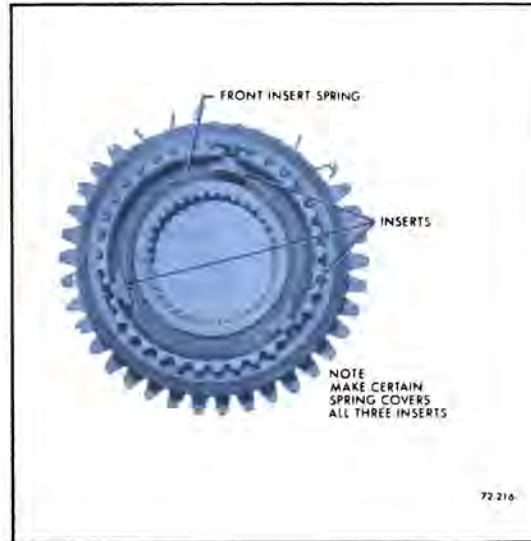

Figure 72-216—Installing Front Insert Spring
5. Install front insert spring in hub as shown in Figure 72-216.